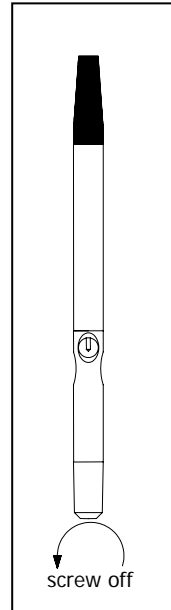

Fig. 3: Sensor
- Unscrew the sensor weight (Fig. 3)
- Screw of the probe weight (Fig.3)